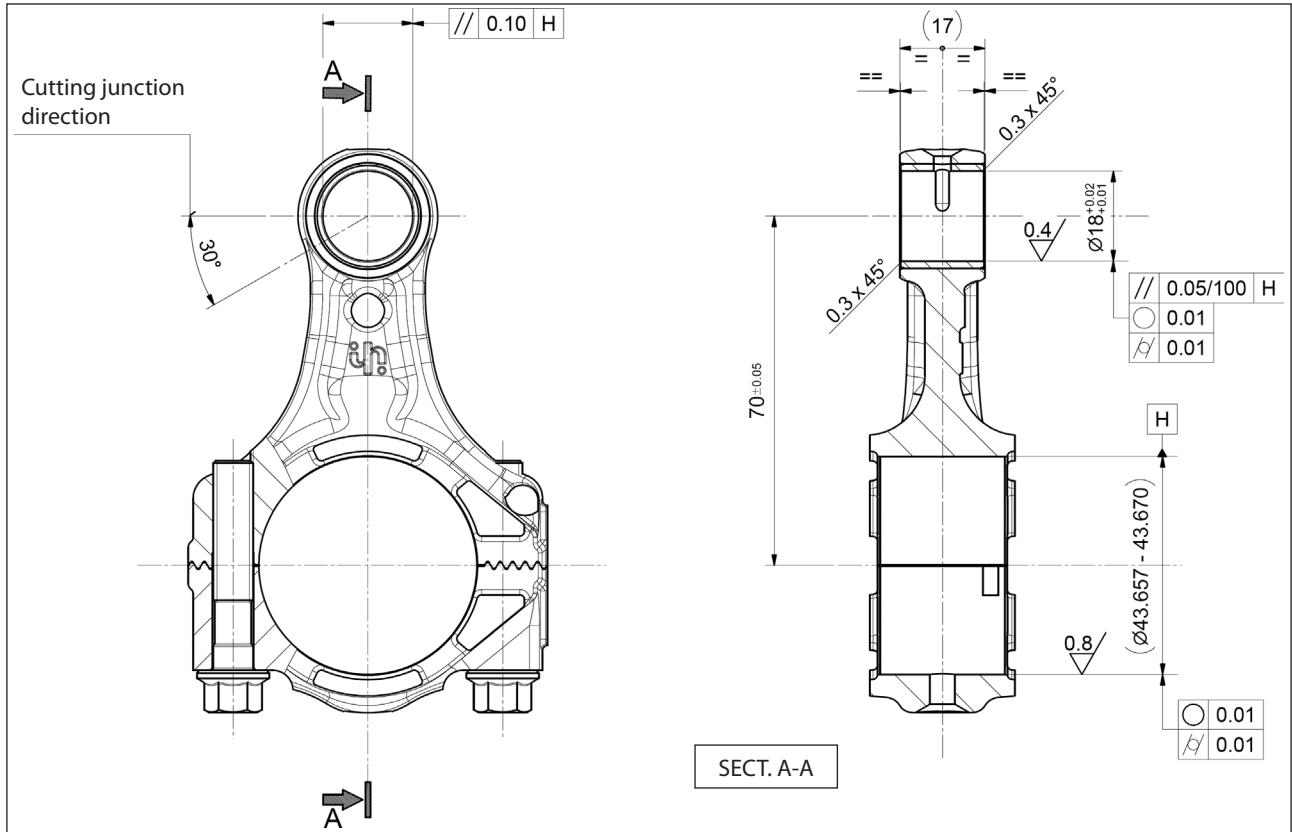

Fig. 32
** The head fixing screws exploded view pos. 55 must be tightened with a torque wrench respecting the order shown in the diagram in Fig. 32.
- the cutting junction is directed as shown in (Fig. 32).
Then perform mechanical processing. The dimensions and tolerances shown in (Fig. 32) must be respected.